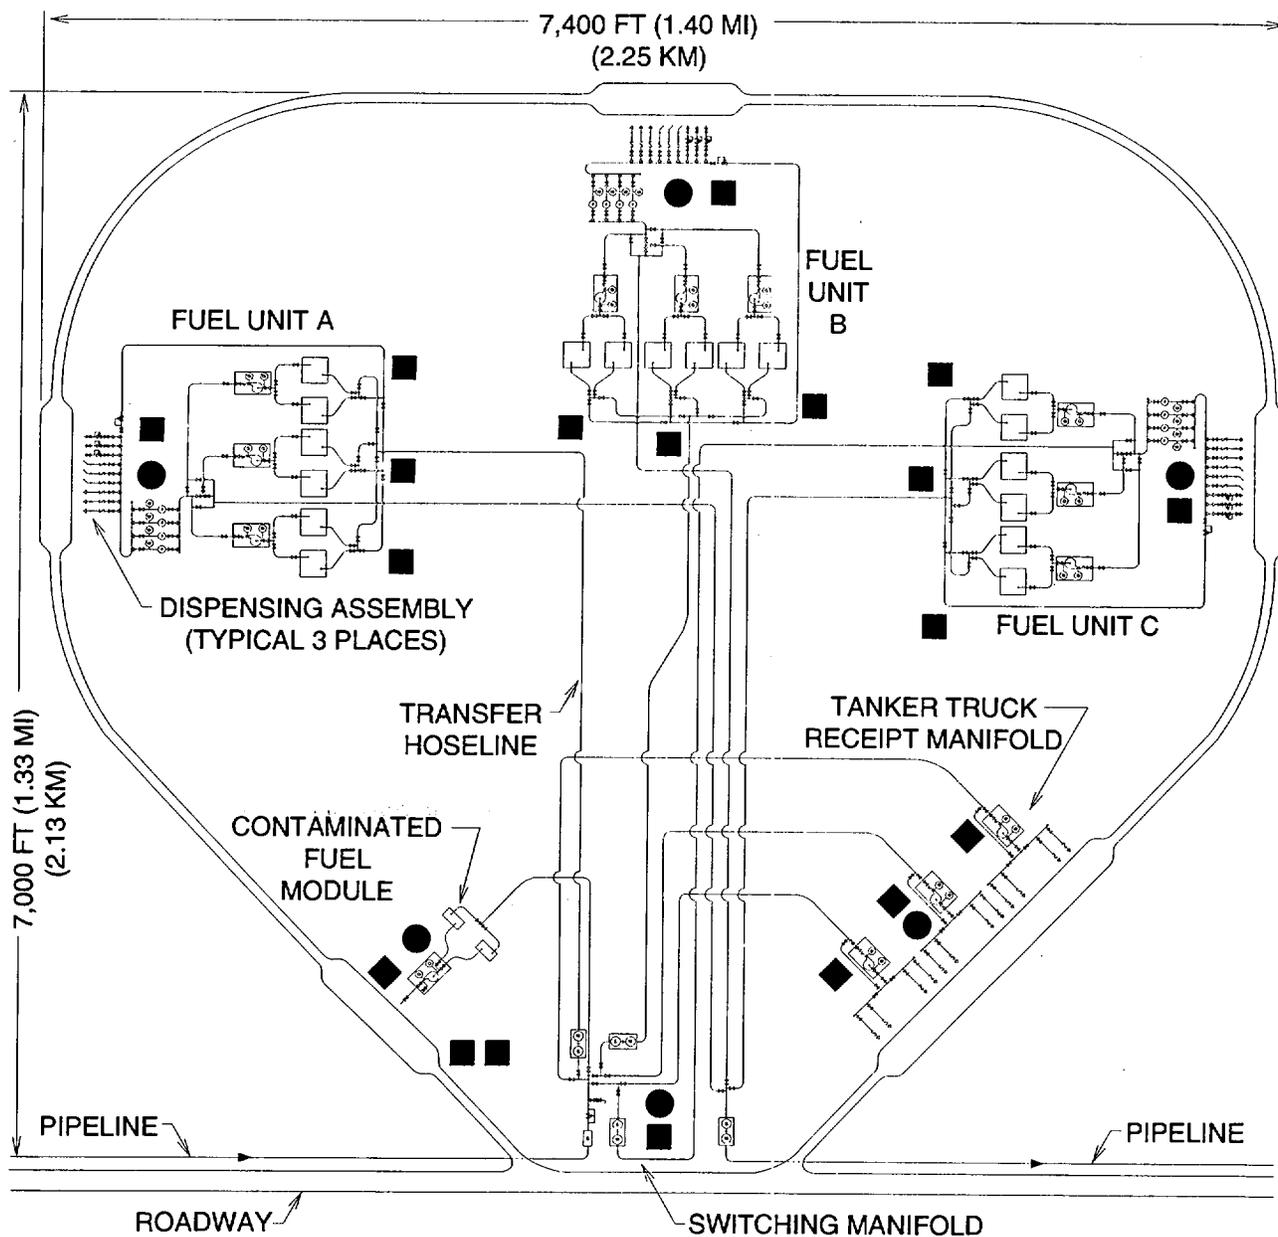
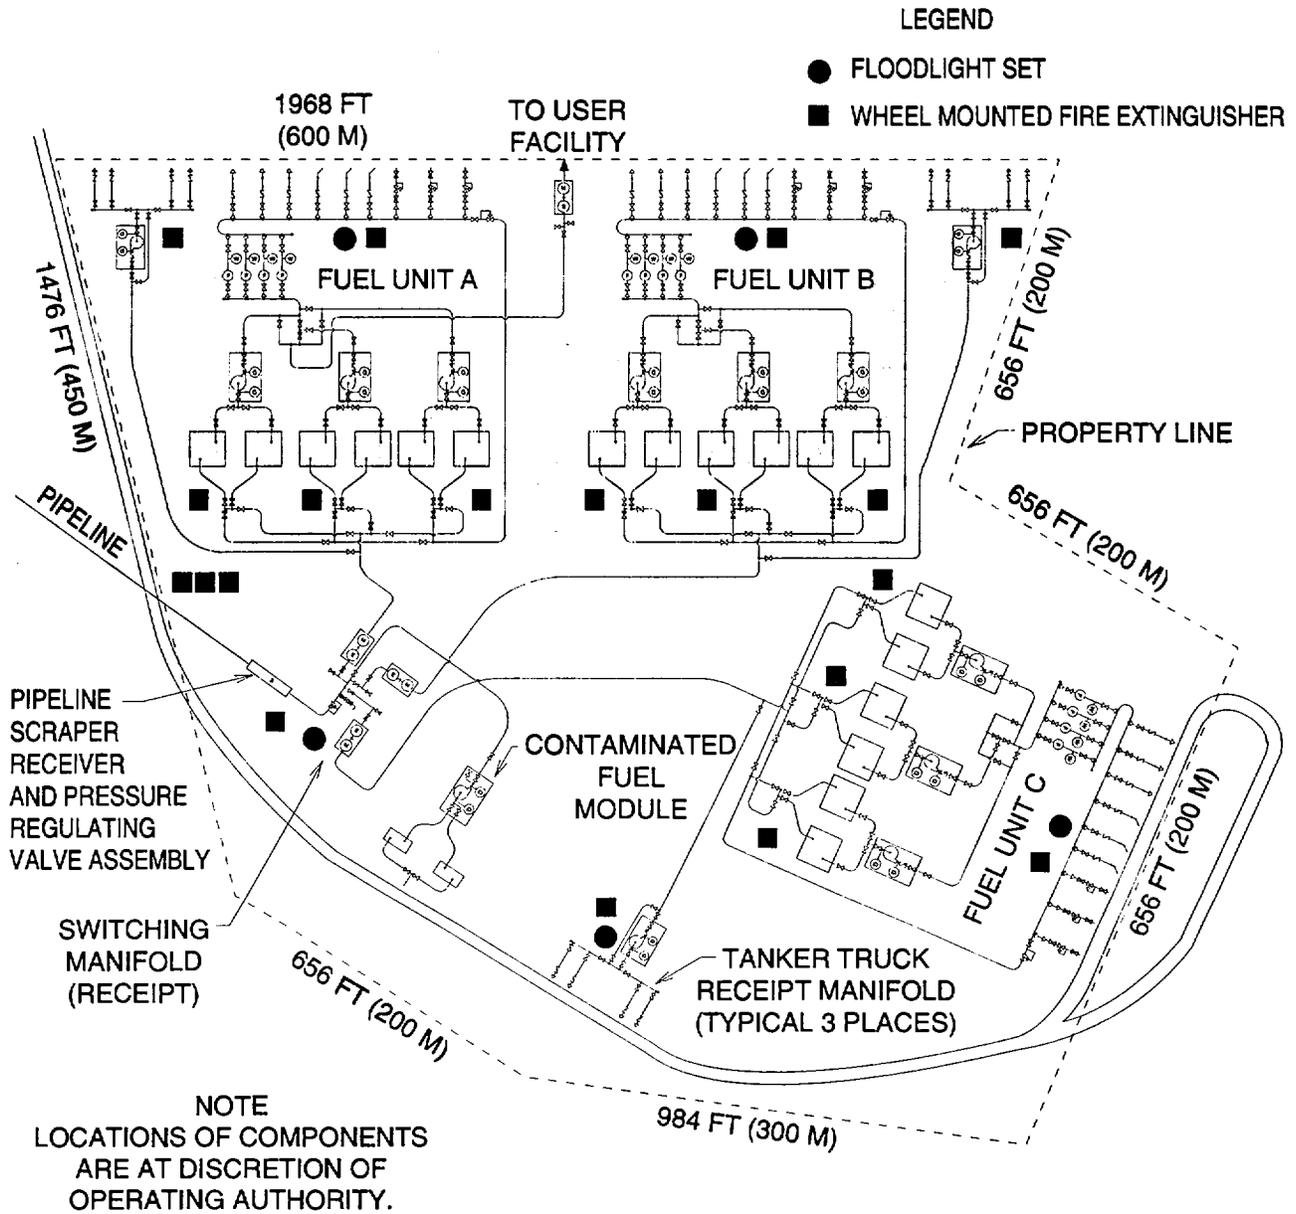

Figure 4-1. Typical Wide Spaced TPT Layout
Figure 4-2. Typical Close Spaced TPT Layout
(c) TPT site size. See figure 4-1 and 4-2 for two examples of typical TPT layouts. The layouts include suggested arrangements of equipment. The objective in any equipment arrangement is to provide for efficiency and safety in operations. The TPT should be arranged for maximum spacing between tank farm modules and fuel units. This will provide for the highest level of safety for the equipment and the operating personnel. In many locations, due to terrain or operational situations, the layout may have to differ substantially from that shown. Actual layouts are at the discretion of the installing and operating authority in each case. In a relatively secure area or when property available is limited, it will be appropriate to arrange the system with much closer spacing between fuel units and equipment. It is not necessary to lay out tanks in a straight line. Security demands or terrain may dictate otherwise.
(2) Primary roadways. Primary roadways must be fully compacted, have good drainage, and to the extent possible, have at least a surface of gravel or crushed rock. Each side of the road should have an adequate ditch to provide good drainage. Drainage culverts should be placed as required. The road, swale, ditches, and drain culvert requirements will vary with site conditions and anticipated rainfall. Figure 4-1 shows a desirable road layout for a widely spread TPT. Figure 4-2 shows a desirable road layout for a close spaced TPT. Roadways must be constructed to permit ready access to all areas for installation, operation, fuel loading and unloading, and fire fighting.
(3) Secondary roadways. Secondary roadways within the TPT must be provided to allow movement of material handling equipment, pumps, fire suppression equipment, and maintenance access. Under-road culverts are to be installed as necessary. The hoseline suspension kit may also be used to allow vehicles to drive under the hoseline. Access must be provided to the pumps and each tank berm.
(1) The contaminated fuel module will be located between the associated pipeline and the switching manifold within the TPT (see figures 4-1 and 4-2, TPT Overall Layouts).
(2) The two 50,000 gallons collapsible fabric tanks will each requires a level area approximately 60 ft. X 100 ft. (46 ft. X 86 ft. if sandbags are used) for the tank/berm location, if the installation authority chooses to have them with separate berms. If the two tanks are installed within a common berm, an area of approximately 105 ft. X 100 ft. (96 ft. X 87 ft., if sandbags are used) is required.
(3) Space must be provided for the 350 gpm transfer pump used with the contaminated fuel module.
(4) Road access must be provided to the contaminated fuel module to allow tanker-trucks to load the contents of the 50,000-gallon tanks as required. A graded area 40 ft. wide x approximately 100 ft. long is recommended.